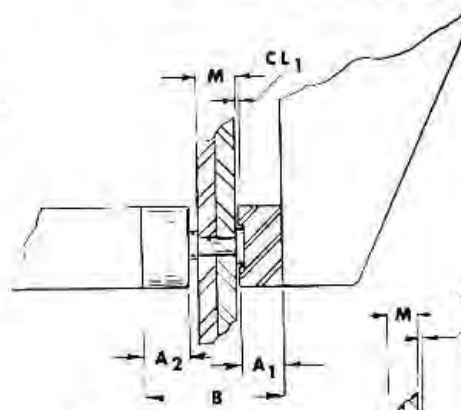

FIG. 4
(B) Driving a flat head on a rivet requiring a cupped set. (Figures 4 and 5.)